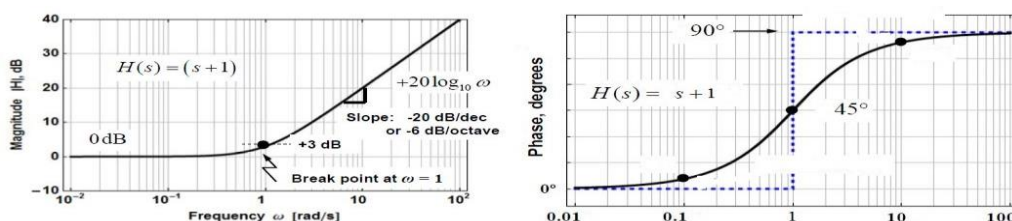

Figure 2: Bode plot of $H(s) = s + 1$
*** Figure 2 and 3 shows that the bode plot of a zero is reflected with respect to frequency axis of the bode plot of a pole of the same type.
The lag compensator, while not changing the low-frequency gain, does reduce the high frequency gain. Thus, the low-frequency gain of the system can be made high to yield a large K_v without creating instability. This stabilizing effect of the lag network comes about because the gain at 180° of phase is reduced below 0 dB. Through judicious design, the magnitude curve can be reshaped, as shown in Figure 2, to go through 0 dB at the desired phase margin. Thus, both K_v and the desired transient response can be obtained.